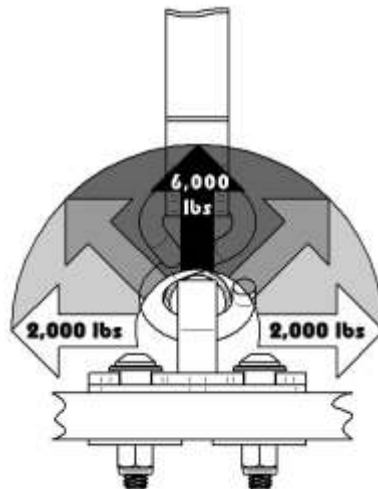

Figure 2.
2. Before drilling, consider which direction you are most likely to pull from so that you can orient the floor plate accordingly(see Figure 2). The hybrid anchor can be rotated 180 degrees and reinstalled to the floor plate for increased versatility.